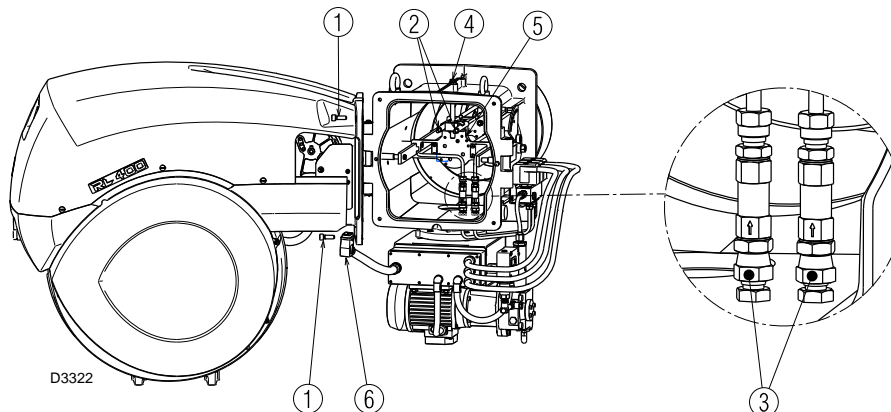

Fig. 13
- open burner at hinge (Fig. 13) after removing the 4 screws 1).